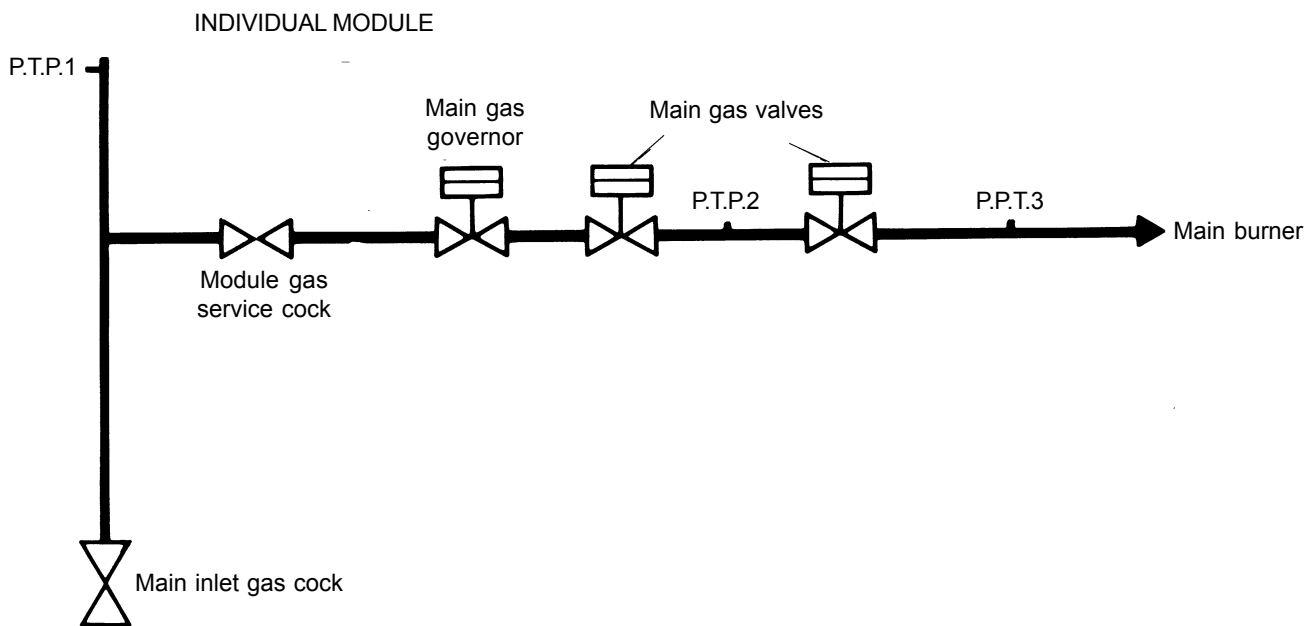

Fig.19 Diagram of Gas Supply Manifold
1. Unscrew and remove the ferrule (Fig.19) from the spark electrode and disconnect the ignition lead. Pull off the inline connector in the flame sensing probe lead.
3. Carefully fit the new item and reconnect the leads. If applicable check that the spark gap is 3.5 ± 0.5 mm (Fig.19).
1. Unscrew and remove the ferrule (Fig.19) from the spark electrode and disconnect the ignition lead. Pull off the in-line connector in the flame sensing probe lead. Undo the pressure switch earth lead.
- iii) There is mains electrical supply (230V) at the spark generator at the correct time during the ignition sequence (Fig. 19)